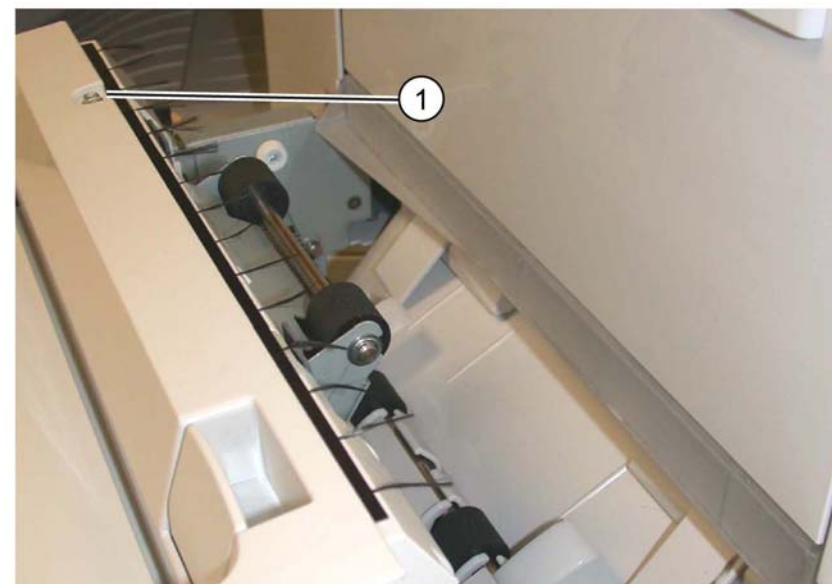

Figure 6 Retaining screw
5. Install the retaining screw (1), Figure 6.